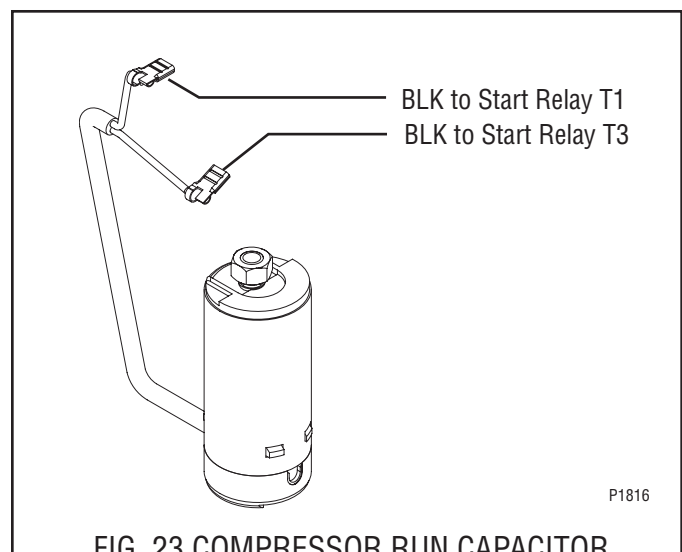

FIG. 23 COMPRESSOR RUN CAPACITOR
5. Refer to Fig. 23 and reconnect the wires.